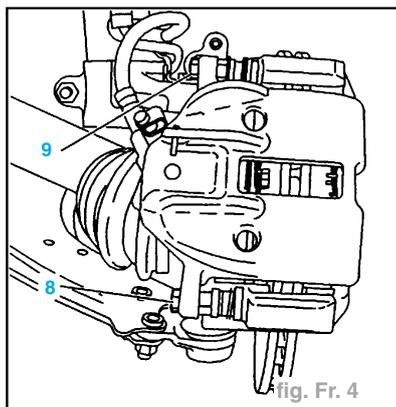
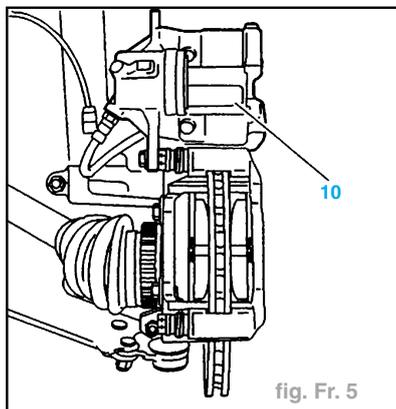

fig. Fr. 4
fig. Fr. 5
- Déposer la vis (8) (fig. Fr. 4).
- Desserrer la vis (9).
- Basculer l'étrier (10) (fig. Fr. 5).